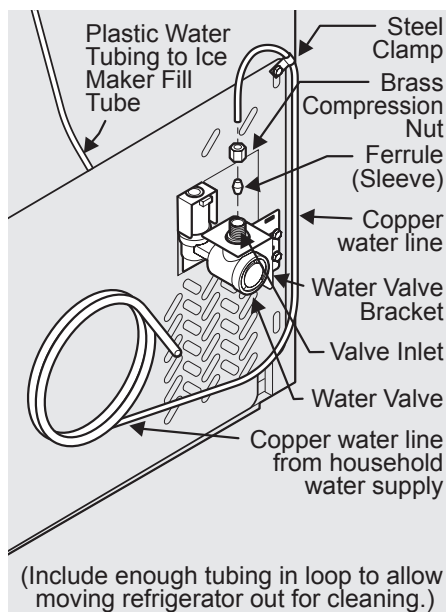

Figure 1
4. **If you use copper tubing** - Slide brass compression nut, then ferrule (sleeve) onto water supply line. Push water supply line into water valve inlet as far as it will go ( $\frac{1}{4}$  inch / 6.4 mm). Slide ferrule (sleeve) into valve inlet and finger tighten compression nut onto valve. Tighten another half turn with a wrench; DO NOT over tighten. See Figure 1.